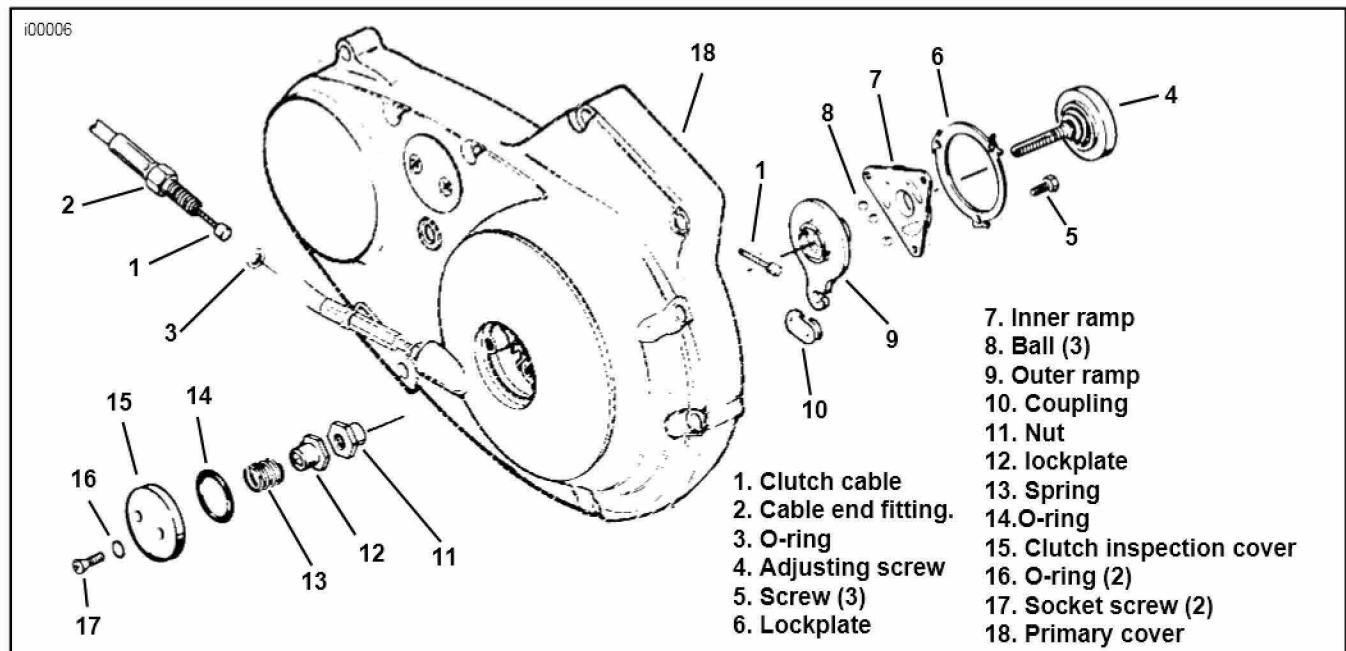

Figure 1. Primary Cover -1991-1993
2. See Figure 1. Retain nut (11) for use later.
4. See Figure 1. Refer to CLUTCH RELEASE MECHANISM section in the appropriate Service Manual and perform the DISASSEMBLY procedure.
5. Discard O-ring (3). Retain balls (8) and coupling (10) for use later.